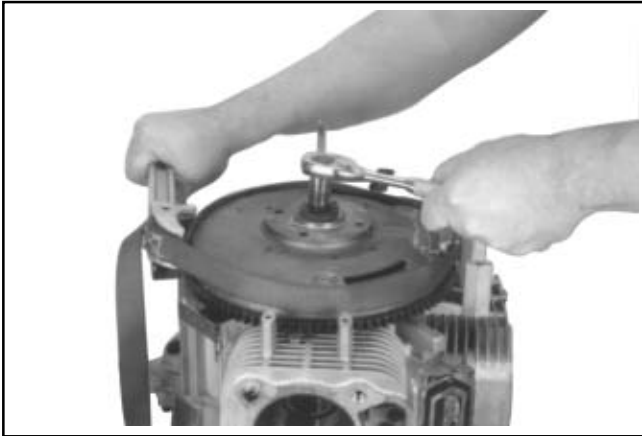

Figure 9-45. Removing Flywheel Fastener Using Strap Wrench.
1. Use a flywheel strap wrench or holding tool (see Section 2) to hold the flywheel and loosen the hex. flange screw securing the flywheel to the crankshaft. See Figure 9-45.